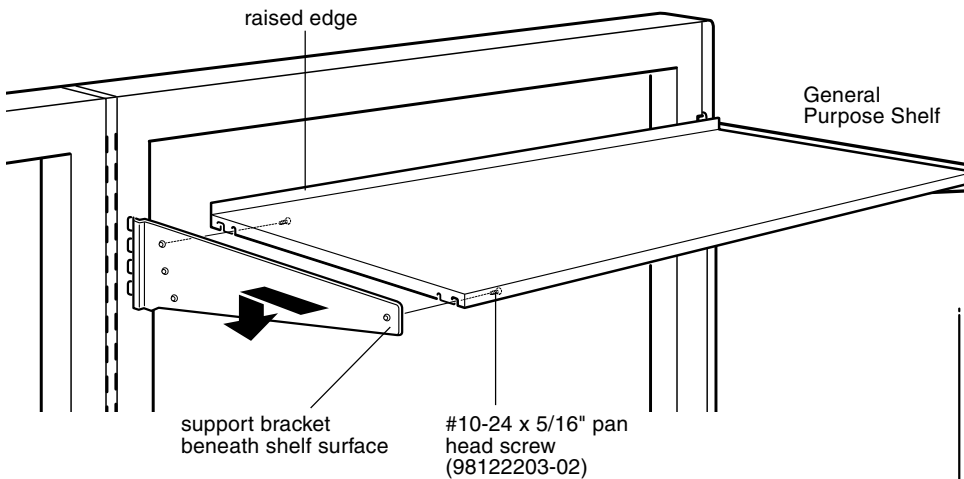

Figure 1
1. With flat side up, insert left hand support bracket into the left side of the frame at designated height. Make sure bracket is firmly seated in hanger frame. Repeat with right hand support bracket into the right side of the frame. (Figure 1)